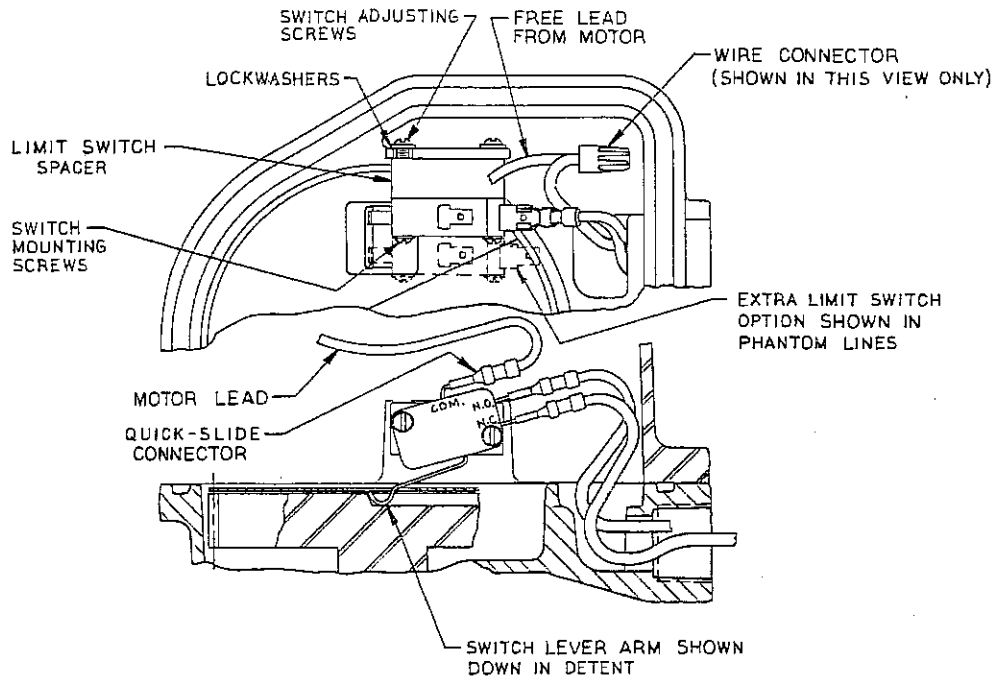

Figure 2
The limit switch of the 36 Actuator can be adjusted in two directions; up and down and side to side (refer to Fig. 2 below).
- D. Position the extra limit switch against the existing limit switch and fix both switches to the spacer, use the longer screws provided with the extra limit switch kit and re-use the existing lockwashers (see Figure 2).